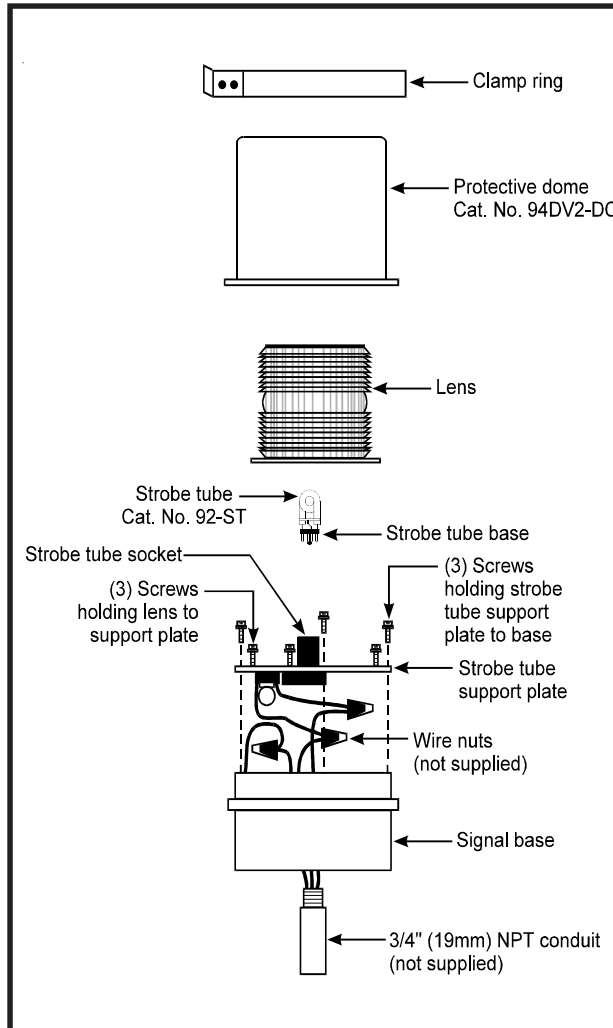

Figure 1. Mounting the 94DV2 Series Signal
1. Refer to Figure 1. Release the latch on the clamp ring and remove the ring holding the protective dome to the signal base. Lift the dome straight up off of the signal base. Remove the three screws holding the strobe tube support plate to the signal base, grasp the plate and carefully lift the support plate off of the signal base.
- a. Refer to Figure 1. The signal requires a 3/4" (19 mm) NPT conduit. Route the field wiring from the power source through the conduit and then through the conduit entrance hole in the signal base.
1. Refer to Figure 1. Disconnect the power and wait five minutes. Lift the dome off of the signal base. Loosen the three screws in the keyhole slots in the base of the lens. Turn the lens clockwise and lift it straight up and off the strobe tube support plate. Next, remove the three screws holding the strobe tube support plate to the signal base. Grasp the socket (on the strobe tube support plate) and carefully lift the support plate off of the base.